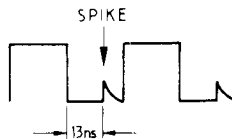

Figure 5-14
28. Adjust, via A128 R37, the switching spike of the "Cut-Off monostable Multivibrator" to about 13 ns after the trailing edge (see Figure 5-14).